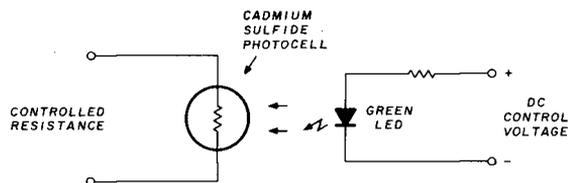

fig. 1. Homebrew voltage-controlled resistor.
Shown in **fig. 1** is a simple voltage-controlled resistor that can be homebrewed with readily available parts. Such devices may be available already assembled but perhaps not as available as the two parts needed to build your own. The controlled resistor is a cadmium sulfide (CdS) photocell, obtainable from Radio Shack for 99 cents (catalog number 276-116). Its resistance changes from several megohms in darkness to about 100 ohms in bright light. It's most sensitive to yellow or green light. A green light-emitting diode (LED) causes the CdS resistance to vary inversely to the dc control voltage applied to the LED circuit.
The diodes (fig. 1) are used solely for isolation to keep this circuit from affecting anything going on at the connection points in the 2036. The RC network on the relay gives a delay of 1-2 seconds to keep the a-m/fm radio off during short repeater dropouts or when working simplex.
**0/5-kHz — COR bypass.** If you live in a signal area with very few repeaters that require the 0/5-kHz switch, you can make it a dual function switch (0/5-kHz — COR bypass). This beats installing another switch in the rig and messing up the looks of the 2036. This addition is useful when the a-m/fm radio is broadcasting something you don't want interrupted while listening to it. All that's necessary is to remove the wire going to SW6 from pin X on the synthesizer board and reconnect it through an isolation diode to the switch as shown in fig. 1.
fig. 1. Circuit for turning off your a-m/fm radio during transmit-receive modes of the Heath HW-2036 2-meter transceiver. Circuit features a 0/5-kHz — COR bypass arrangement.